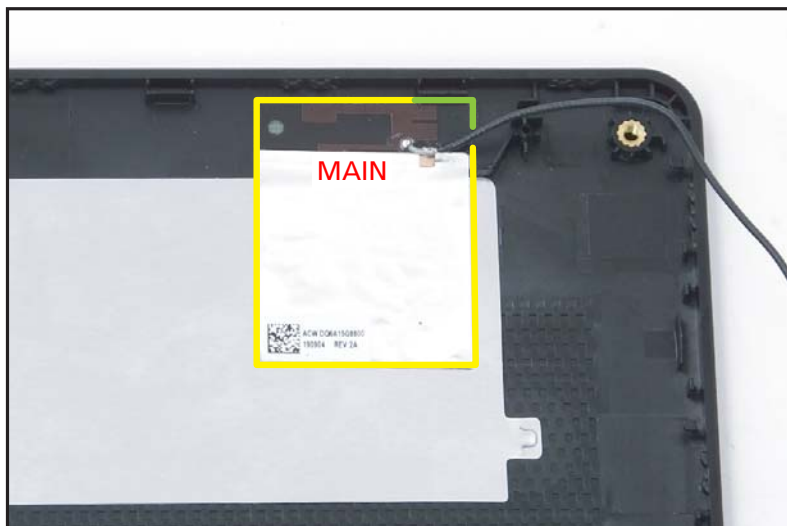

Figure 1-65. Replacing the WLAN Antenna
1. Place the MAIN antenna (black-color) to the right side of the LCD cover. Make sure the antenna PCB circuit area is properly seated and placed onto its compartment highlighted by a green rectangle as shown in Figure 1-65.
2. Adhere the grounding foil of the MAIN antenna as marked in yellow (Figure 1-65).